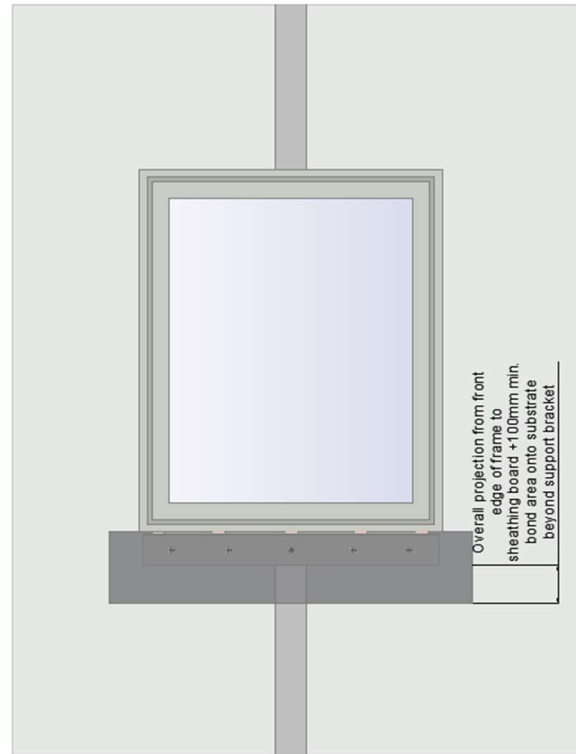

Figure 4.
- The widths of the membrane = overall projection from the front edge of the window frame to the face of the sheathing board + 100 mm bond area onto the substrate beyond the support bracket. (Figure 4).